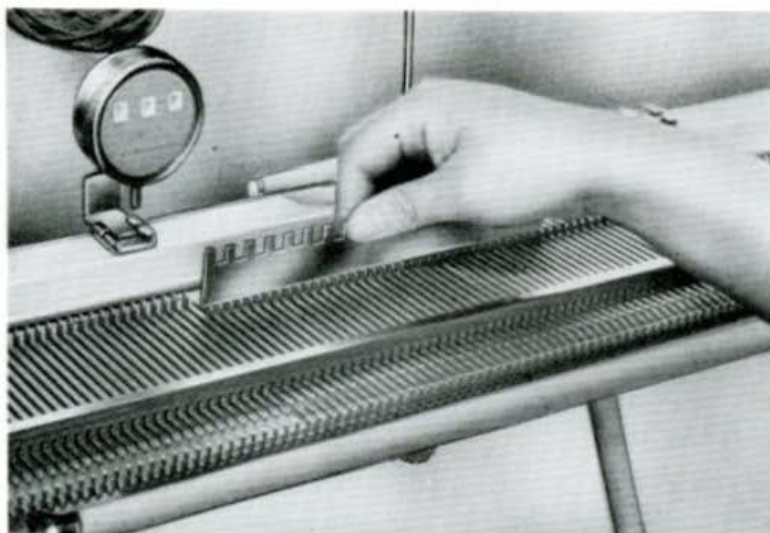

Fig. 25
5. Using the straight edge of a needle pusher, bring forward to position B or about 1/2" from the resting position (A) the desired number of needles. (See Fig. 25)